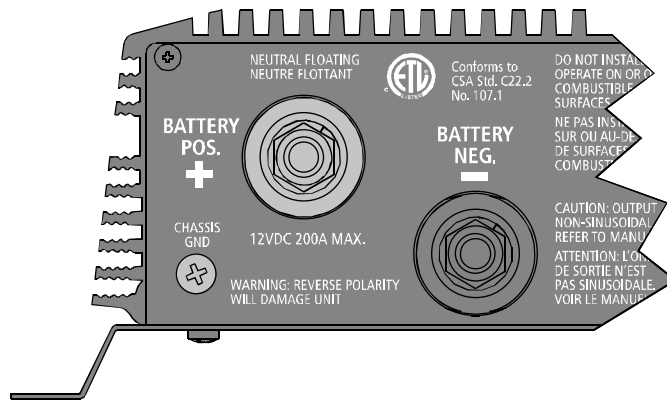

Figure 3-3 DC Panel Connections (XPower 1750 Plus shown)
See Figure 3-3, “DC Panel Connections (XPower 1750 Plus shown)” on page 3-14.
The XPower Plus has a screw terminal labelled **CHASSIS GND** on the rear panel as shown in Figure 3-3. Follow the guidelines in “Grounding Locations” to connect the inverter’s chassis to the ground.
9. Install the lock washer and nut that are supplied with the inverter. Tighten the nut to a torque of **11–13 foot pounds (16–18 Nm)**. Make the connection snug enough so the ring terminal does not move around on the DC terminal, but do not overtighten. See Figure 3-3, “DC Panel Connections (XPower 1750 Plus shown)” on page 3–14.